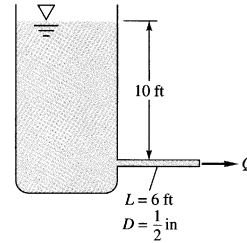

Fig. P6.19
**6.19** An oil ( $SG = 0.9$ ) issues from the pipe in Fig. P6.19 at  $Q = 35$  ft3/h. What is the kinematic viscosity of the oil in ft2/s? Is the flow laminar?